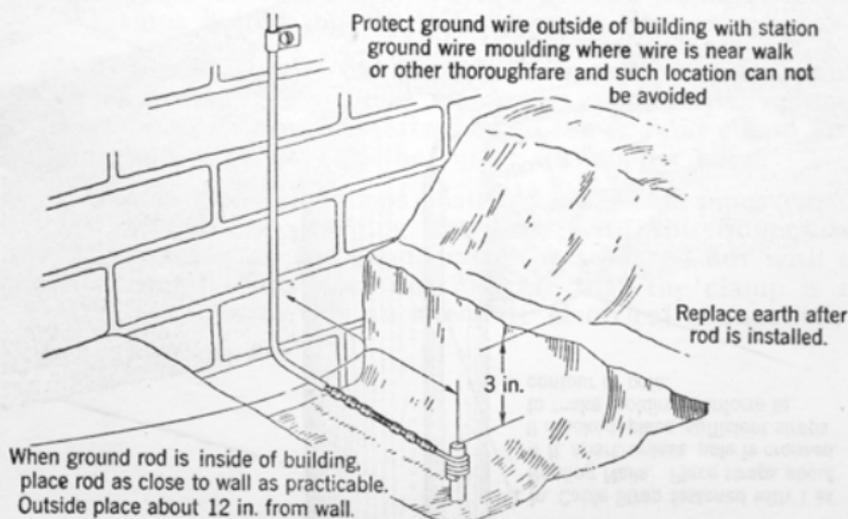

Fig. 2—Ground Rod Near Wall
5.10 The basement of a building is the preferred location for ground rods. In this case drive rod as near as practicable to masonry wall. See Fig. 2 and associated notes.
5.11 When ground rod is installed bury splice between ground wire and ground rod tail wire as shown in Figs. 2 and 3.